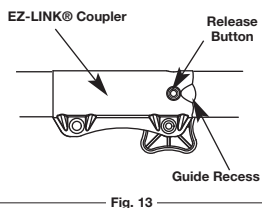

Fig. 13
NOTE: Aligning the release button with the guide recess will help installation (Fig. 13).
2. Press and hold the release button (Fig. 13).